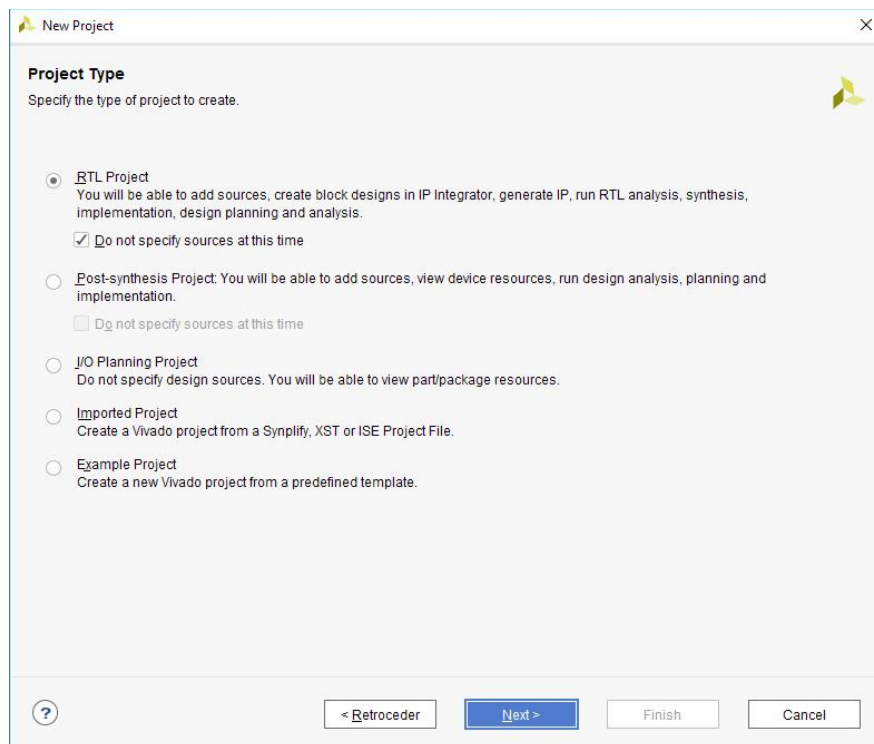

Figure 2
6. In the **Project Type** window select **RTL Project** and check the **Do not specify sources at this time** checkbox (Figure 2)